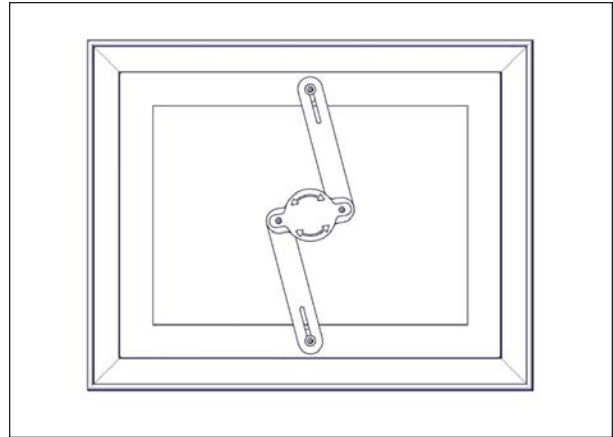

FIGURE 107: INSIDE HANDLE
1. Turn the red handle by a quarter turn in either direction to retract the arms, see Figure 107.